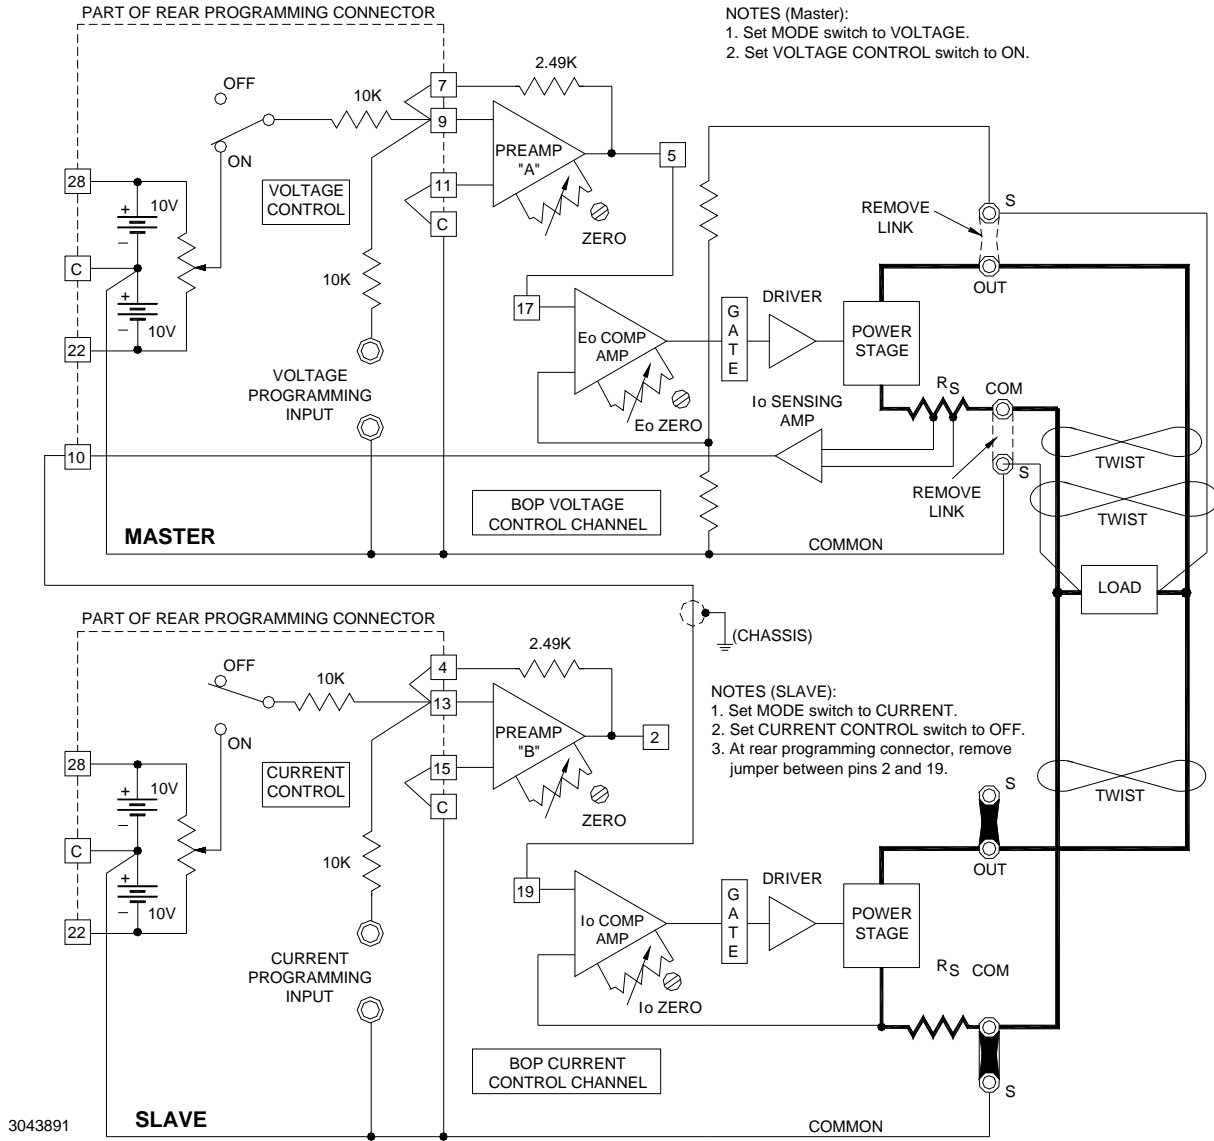
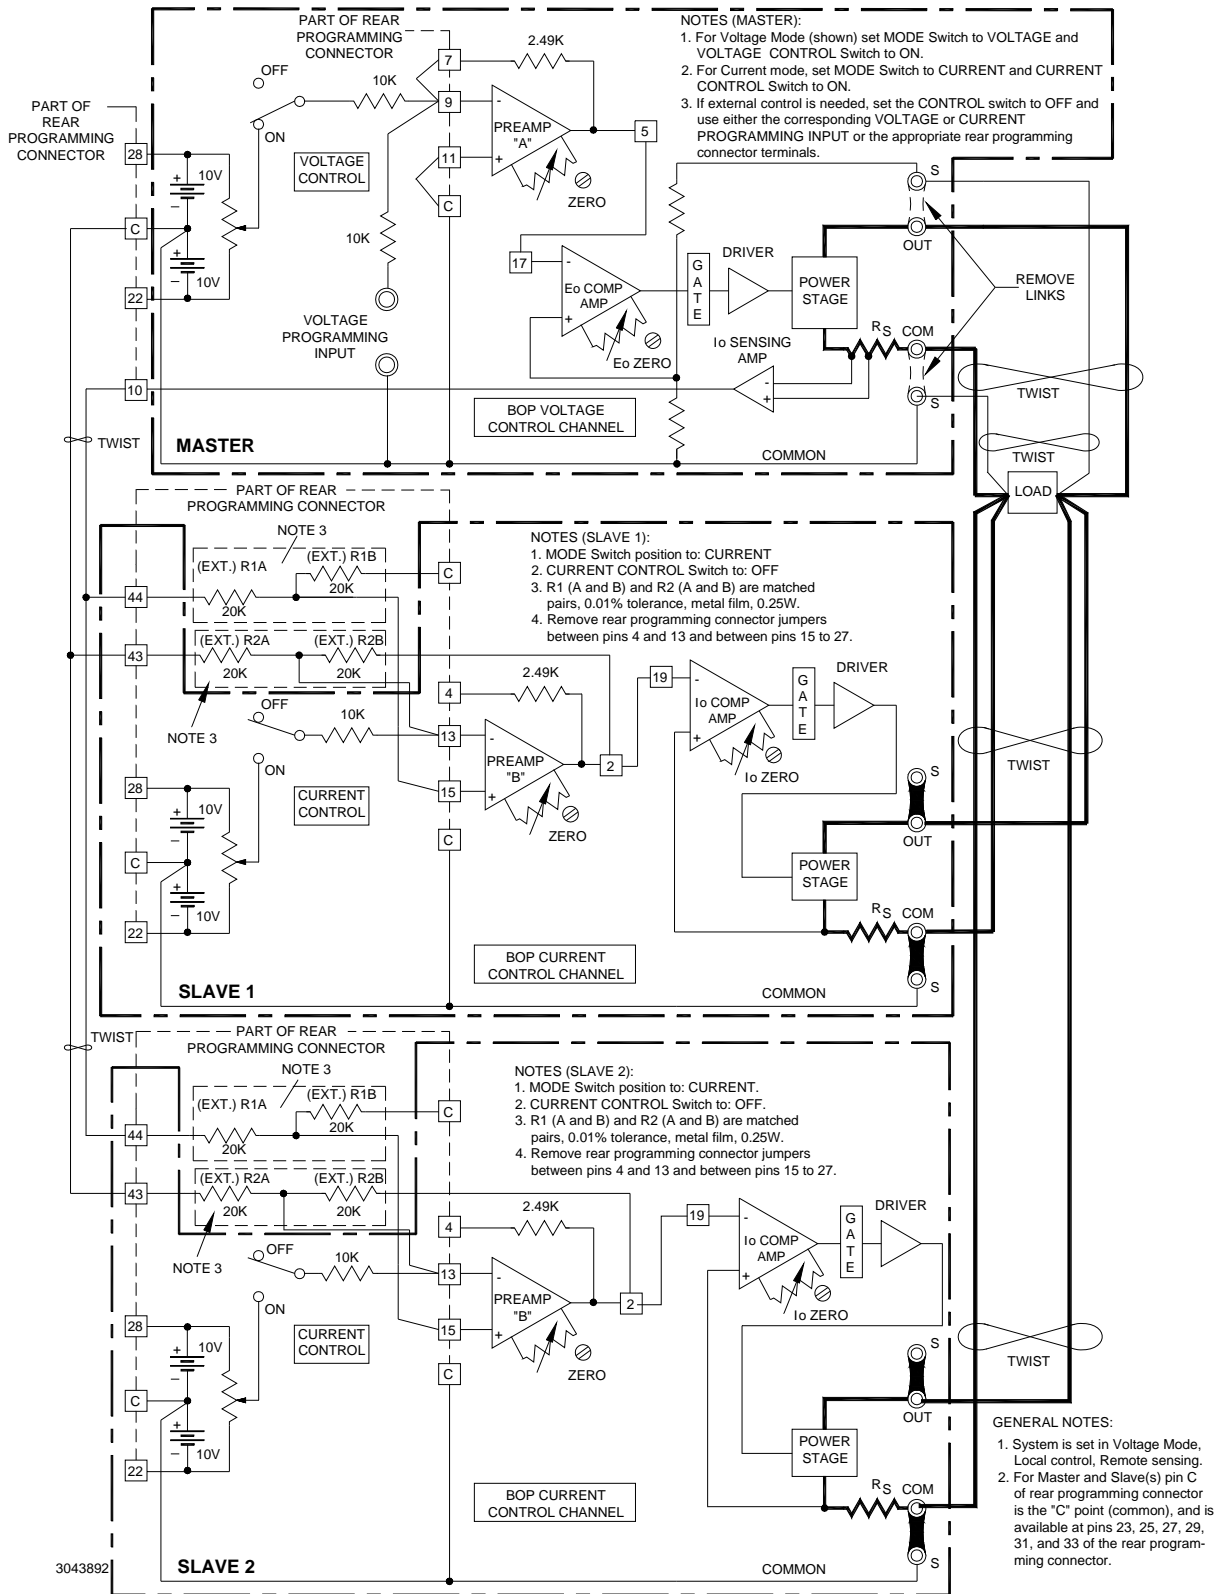

FIGURE 3-26. PARALLEL CONNECTION (MASTER/SLAVE) OF TWO BOP POWER SUPPLIES WITH REMOTE ERROR SENSING AT THE COMMON LOAD
FIGURE 3-27. ALTERNATIVE PARALLEL CONNECTION (MASTER/SLAVE) FOR GREATER PRECISION AND STABILITY OF TWO OR MORE BOP POWER SUPPLIES
Figure 3-26 shows a simple parallel master/slave connection of no more than two BOP power supplies. The configuration shown in Figure 3-26 can be used for master/slave parallel connection of two BOP power supplies (three are shown in Figure 3-27). The configuration shown in Figure 3-27 is more stable and accurate than that shown in Figure 3-26 since it includes compensation that eliminates the parasitic voltage drop on the COM connections of the slaves.
1. Connect the BOP supplies as shown in Figure 3-26 or 3-27.
- a. Set the MODE switches and the VOLTAGE and CURRENT CONTROL switches as directed in the set-up diagram, Figure 3-26 or 3-27.
2. Following the set-up procedure as described above, turn BOP's on and commence operation. The system as shown in the set-up diagram, Figure 3-26 or 3-27, operates in the Voltage Mode, since the MASTER MODE switch is set to VOLTAGE. For operation in the current mode, set the MASTER MODE switch to CURRENT.